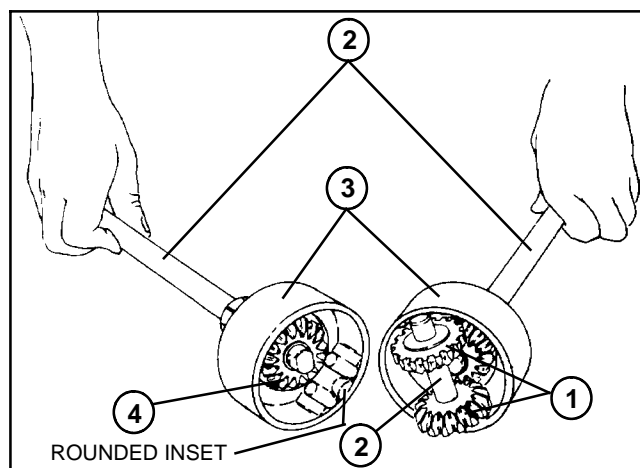

Figure 45
7. Place pinion gear and drive shaft assembly into a differential carrier housing. Position exposed ends of the drive pin into the rounded insets of the housing. Make sure the teeth of the bevel and pinion gears mesh (Fig. 45).
8. Secure both differential carrier housings together as follows (Fig. 45):